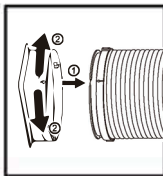

Fig. 1
1. Align the arrows on the hose inlet connector and the hose. Attach the hose inlet connector by turning it either clockwise or counterclockwise. (Fig. 1)